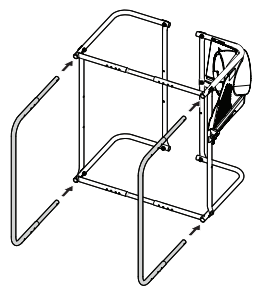

Figure 10
14. Insert u-shape tubes into left and right frame assemblies by sliding adjustment tubes into corner tubes as shown in Figure 10.